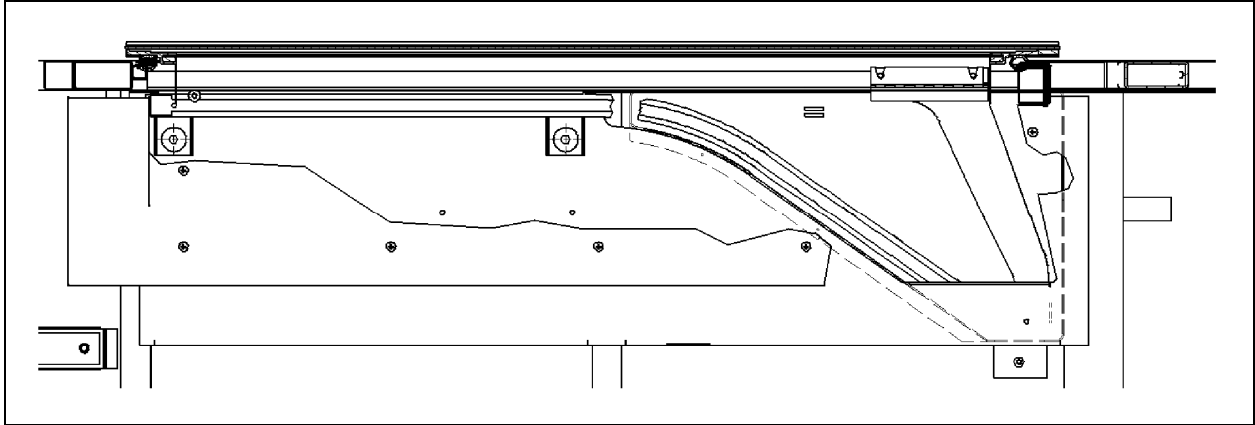

FIGURE 54: WCL LOWER RAIL INSTALLATION
2. Slide the top rail into the upper arm then bolt the rail to the structure. Do not fully tighten (Refer to fig. 54).